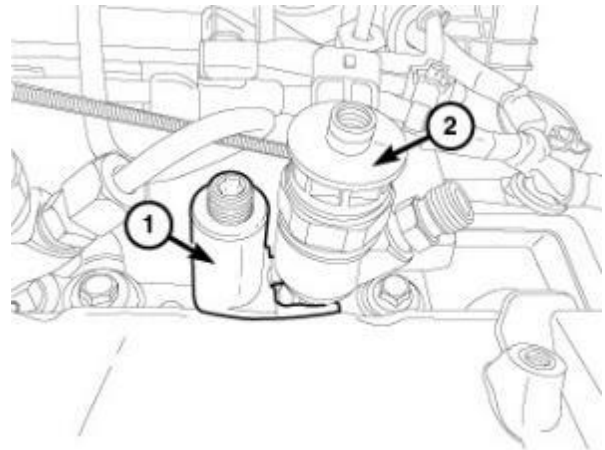

Figure 60 - Fuel Injector Removal Tool
44. If the fuel injector cannot be removed by hand, install the Remover, Fuel Injector VM.10358A (1) to remove the fuel injector (2) (Figure 60).